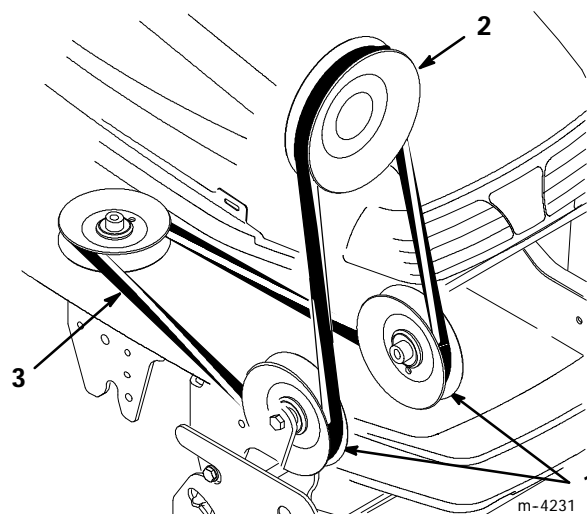

Figure 10
5. Position the belt into the grooves of the PTO pulley (Fig. 10), making sure it is also under the pulleys in the pulley box.